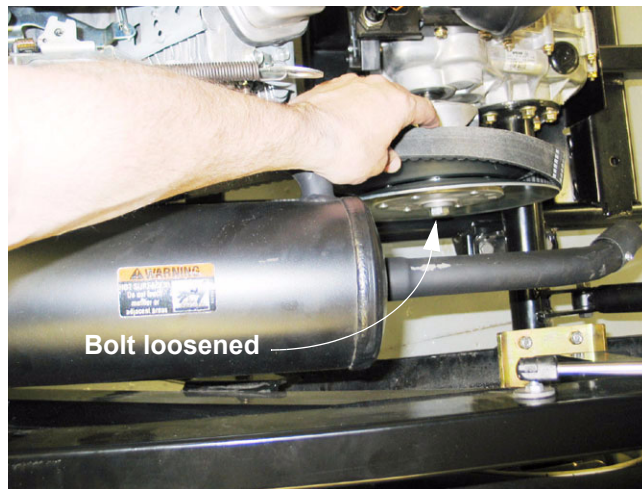

Figure 5.2
- 5.2. Carefully roll the drive belt off of the driven pulley. See Figure 5.2.